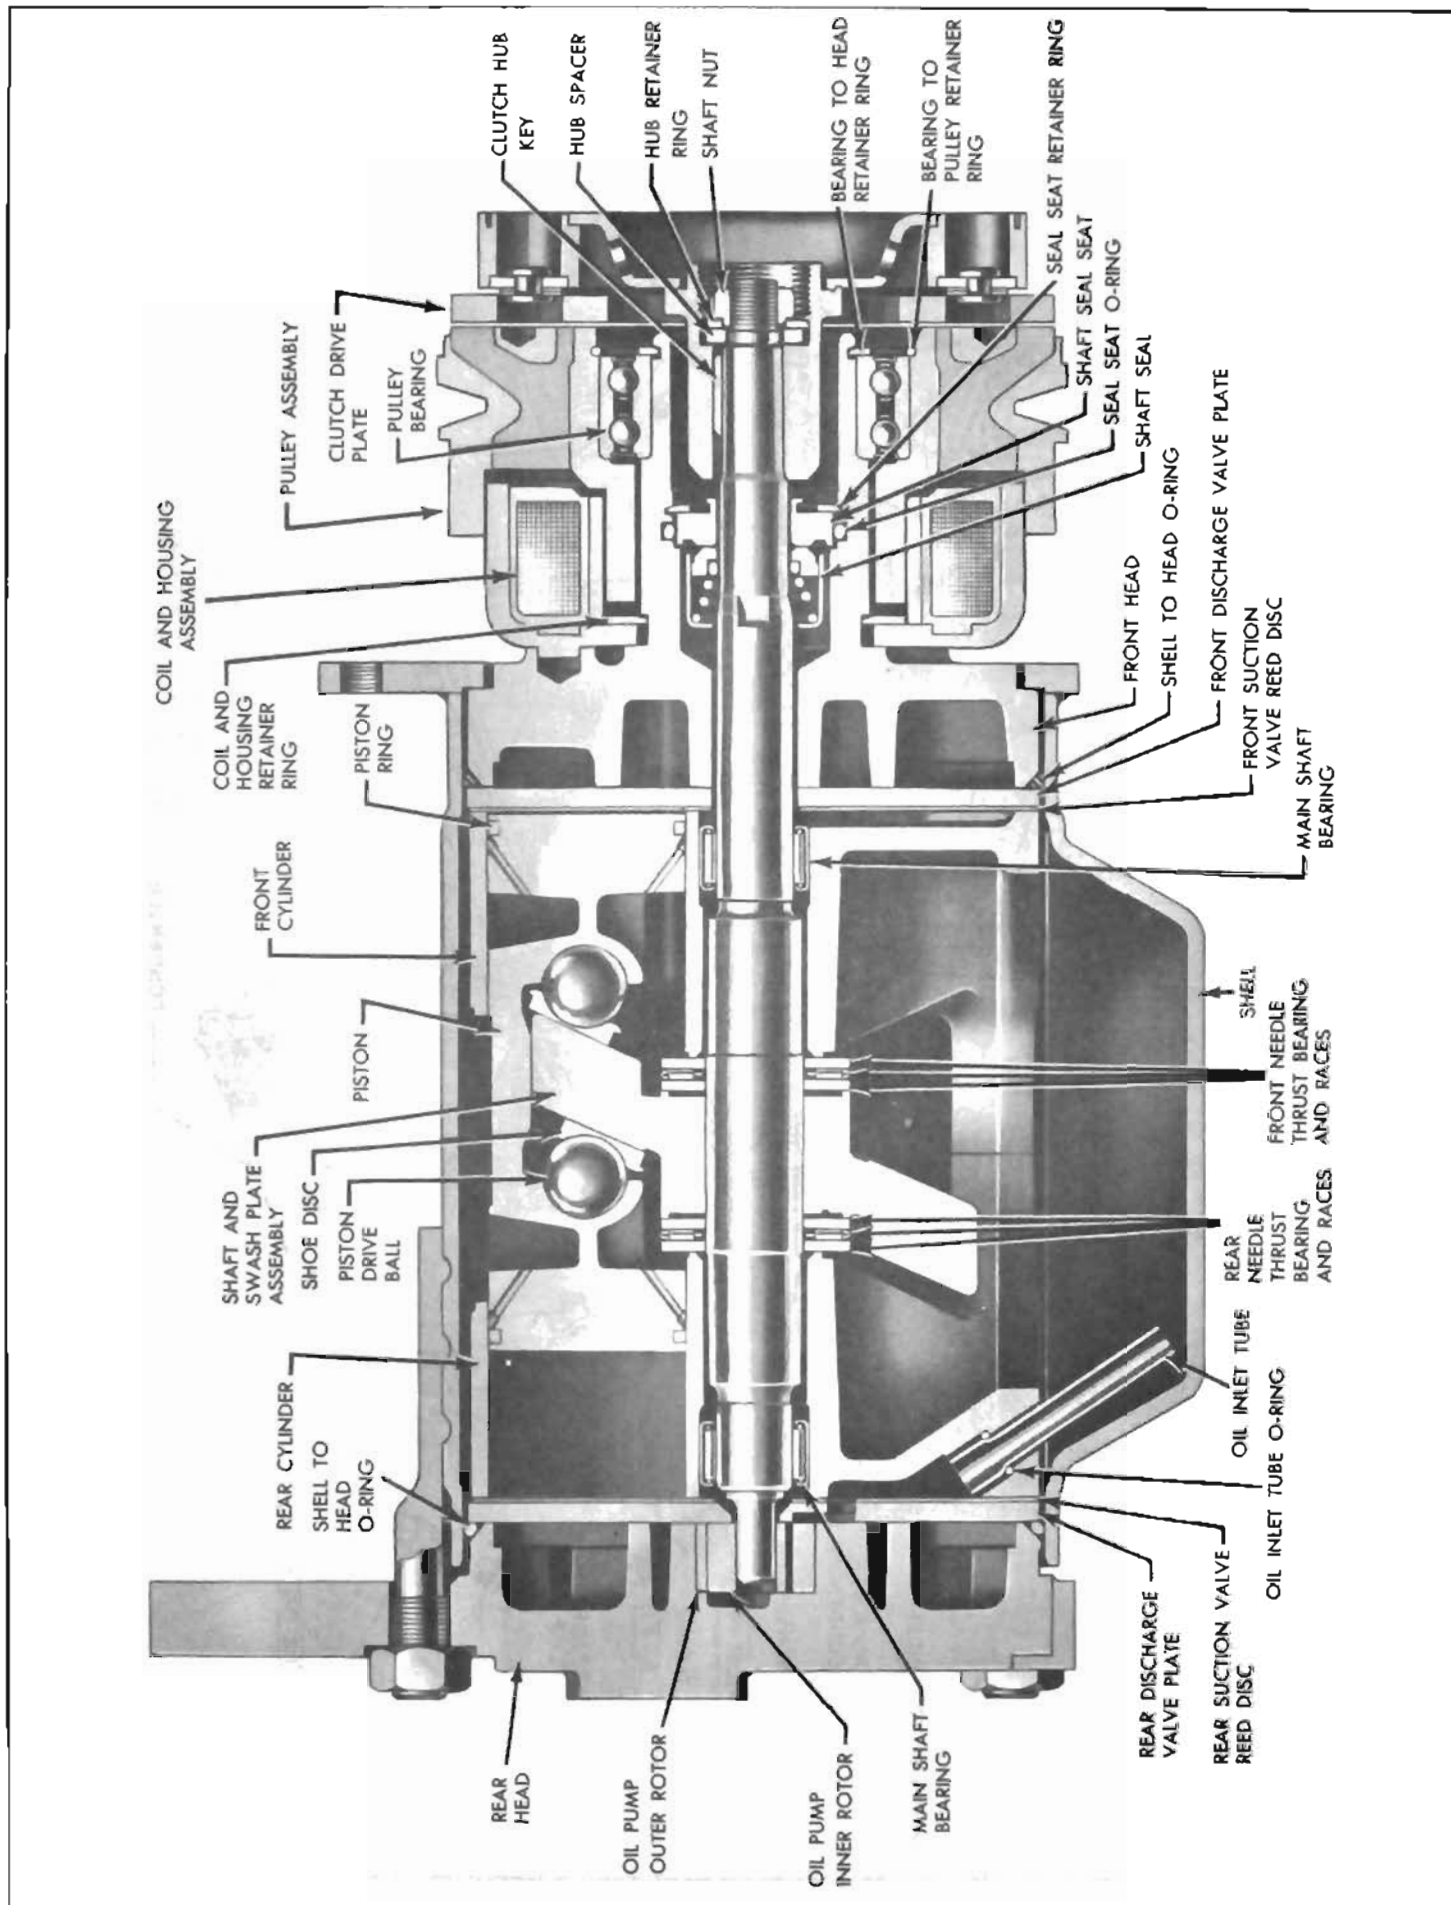

Figure 11-29—Compressor (Sectional View)
The compressor is of basic double action piston design. Three horizontal double acting pistons make up a six cylinder compressor (see Figure 11-29). The pistons operate in 1-1/2 inch bore and have a 1-1/8 inch stroke. A swash plate keyed to the shaft drives the pistons. The shaft is belt driven through a magnetic clutch and pulley arrangement. An oil pump mounted at the rear of the compressor picks up oil from the bottom of the compressor and lubricates the bearings and other internal parts of the compressor. Reed type valves at each end of the compressor open or close to control the flow of incoming and outgoing refrigerant. Two gas tight passages interconnect chambers of the front and rear heads so that there is one common suction port, and one common discharge port. The internal parts of the compressor function as follows:
4. Shaft and Swash Plate Assembly—The shaft and swash plate assembly (see Figure 11-29) consists of an elliptical plate positioned obliquely to the shaft. As the plate rotates on the shaft, the surface of the plate moves to and fro lengthwise relative to the centerline of the shaft. This reciprocating motion is transmitted to the pistons which contact the surface of the swash plate. A woodruff key locks the swash plate onto the shaft. The swash plate and shaft are serviced as an assembly. The shaft is driven by a pulley when the magnetic clutch is energized. A needle thrust bearing and a mainshaft bearing support the shaft horizontally and vertically.